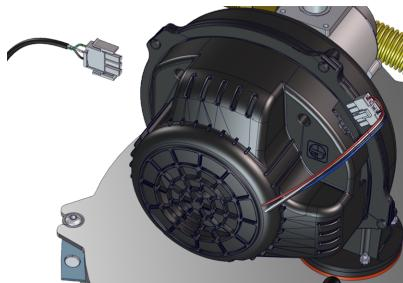

Figure 57 Fan connectors
8. Unplug the two connectors from the front and back of the fan (see Figure 57 ).